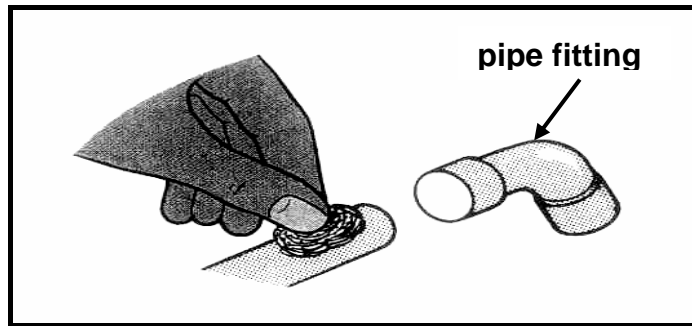

FIGURE 1.1
1.5 Anele has to solder a bronze pipe fitting. What step of the soldering process does FIGURE 1.1 below show?